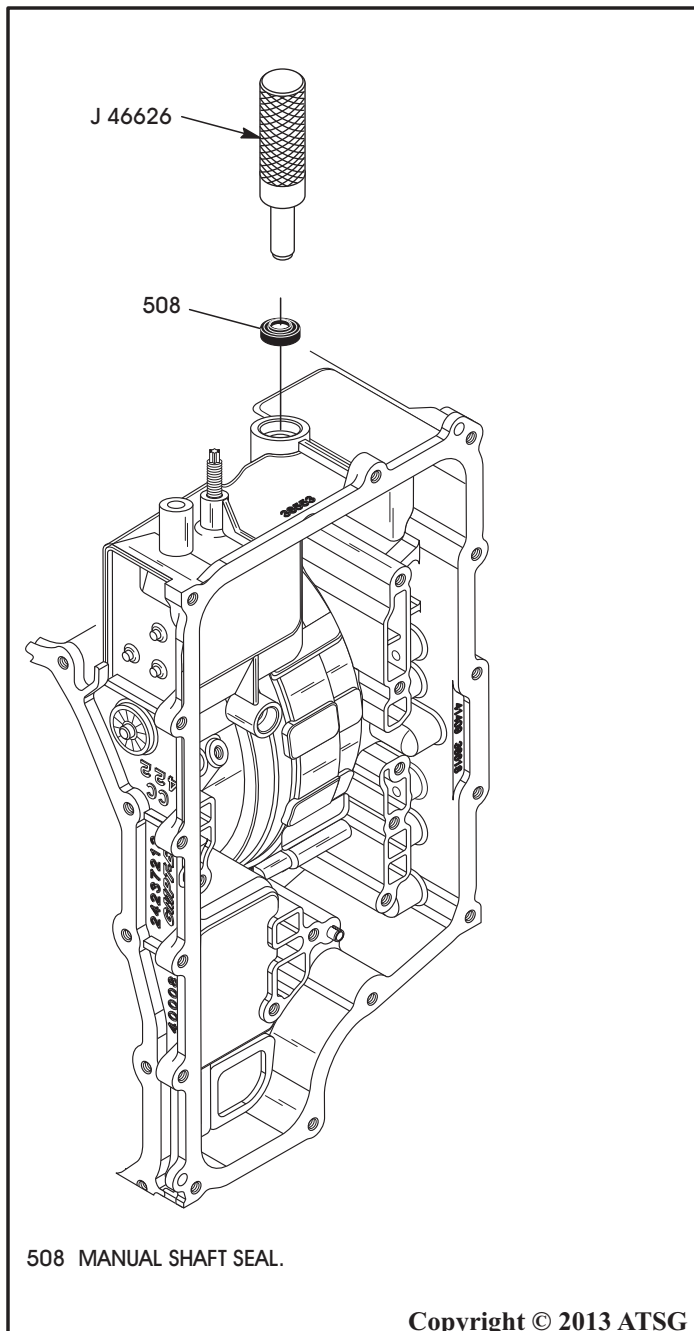

Figure 80
12. Install a new manual shaft seal into the case bore, as shown in Figure 80 using proper driver.